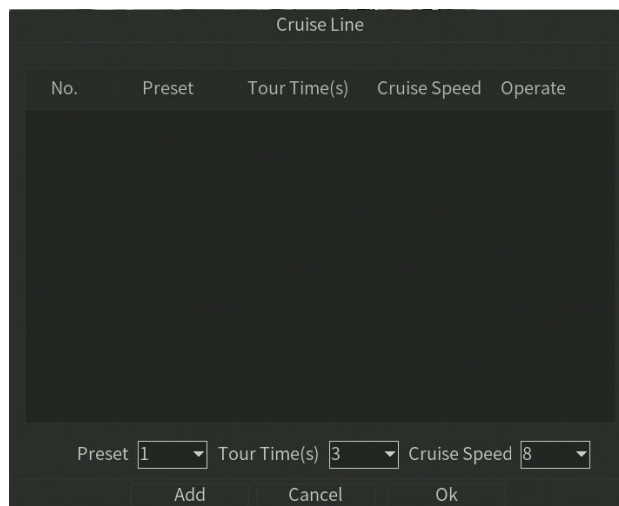

Figure5.3 Tour Line
2. Click the  button to add key points for cruise, as shown in figure 5.3.